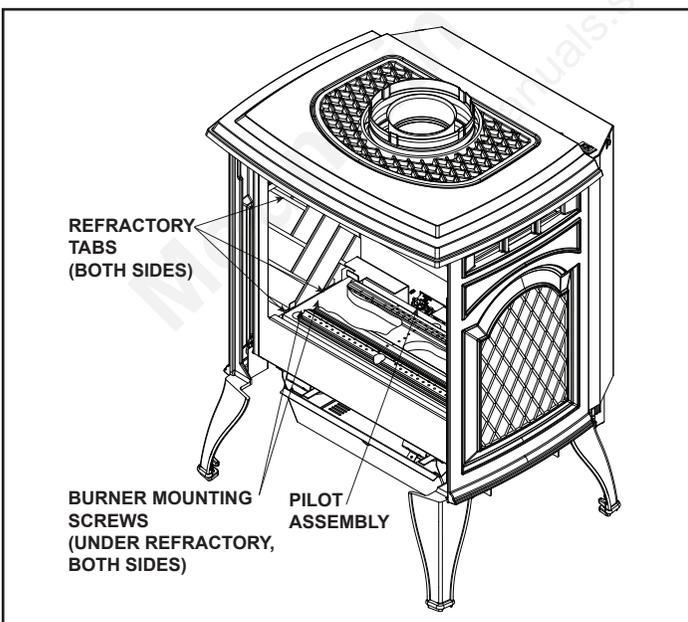

Figure 6.13 - Remove Burner
- Remove the logs and side refractory if installed. To remove side refractory, bend tab at top front corner of refractory. See Figure 6.13.
- The pilot needs to be lifted slightly to accommodate the burner removal. Remove the two screws that attach the pilot to the burner. Lift the pilot slightly until it clears the pilot mounting tabs. See Figure 6.13.
- Remove two burner mounting screws from each side of the burner. Lift burner up and out of appliance. See Figure 6.13.